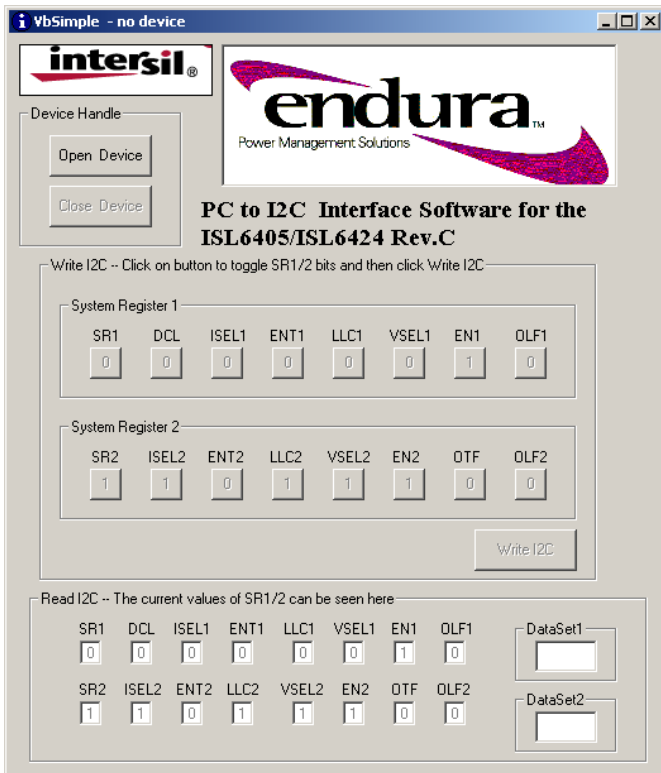

FIGURE 5. PC TO I²C APPLICATION WINDOW
9. Run the ISL6424i2crevb.exe program copied to C:\'some directory'. Figure 5 shows the PC to I²C software application window. Click the 'Open Device' button.